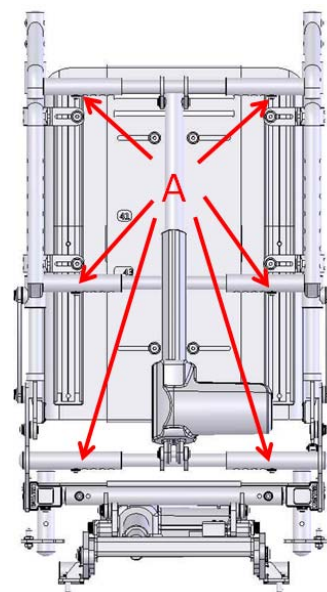

Figure 5-86
5.3.5.16.1 The procedures to adjust the the seat width are almost the same as those of KISS seat without tilting and reclineing options except step 5.3.5.17 Befoe adjusting the backsupport width, remove the screws A. (Figure 5-86)